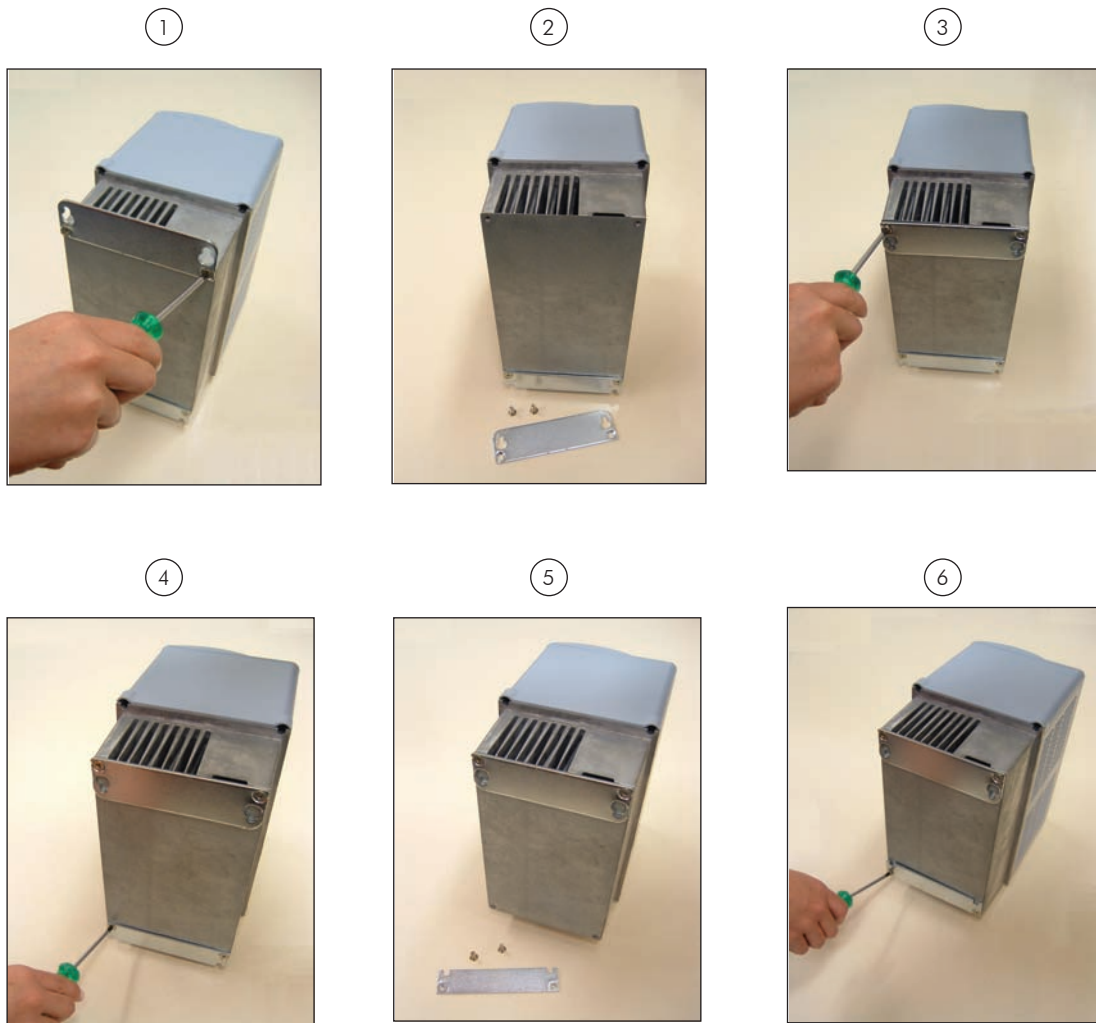

Figure 3.4 - Repositioning the mounting supports
- ☑ The mounting supports shall be removed and repositioned as illustrated in figure 3.4.